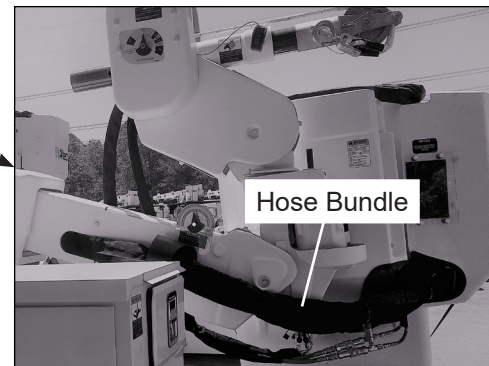

Figure 1 — Locating Hose Bundle
2. Locate the hose bundle covered with protective fabric sock that comes out of the side of the upper boom and runs to the platform (see Figure 1).